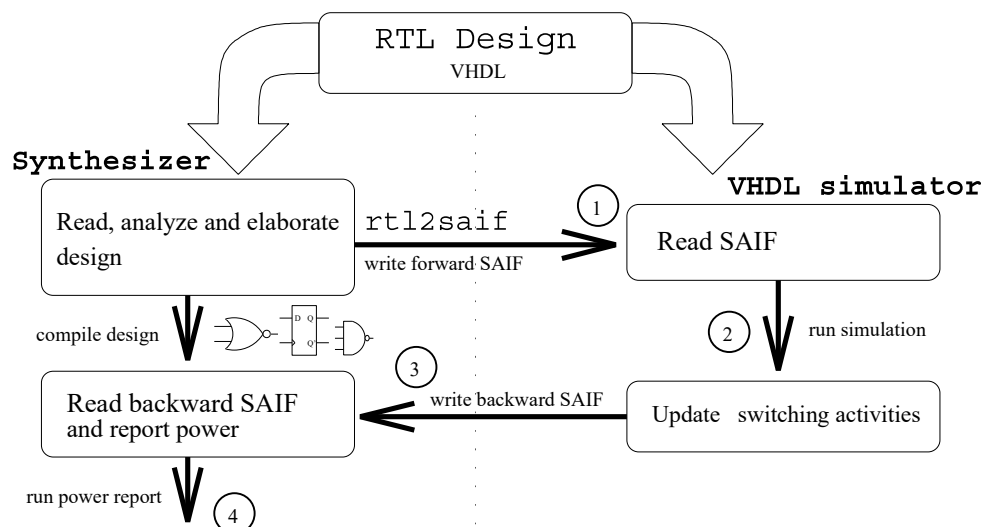

Figure 3.2:
Let’s consider the overall annotation process in figure 3.2: The process is inclusive of two parts, one in the VHDL simulator and another in the design compiler (Synopsys synthesizer). First (1), after having analyzed the design, the synthesizer can generate a forward annotation SAIF file which accounts for the names of the netlists on the design. It is like a SPICE netlist file but at this step the tool leaves the “activity” fields empty for each node. Once the VHDL simulator has read the forward file, after having run simulation (2), it updates this file by writing the activities in each node2 and finally create the backward SAIF file (3). The synthesizer after compilation can read the backward annotation file and update the properties of the nodes (4) with the activities calculated from the VHDL testbench.